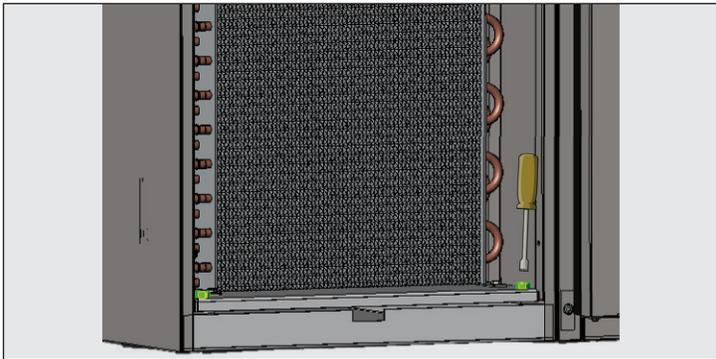

Fig. 5. Remove the condensing base bolts.
6. Remove the condenser base bolts. See fig. 5.